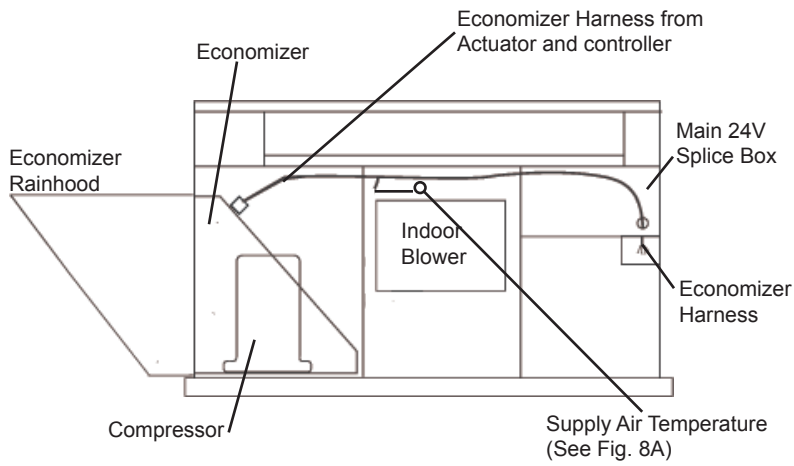

Fig. 8 - Routing Harness Extension and Mounting SAT Sensor
- In the event that your HVAC unit does not have a factory installed harness for the economizer, the extension harness shipped with the economizer must be installed in the unit. Route the extension harness through the HVAC unit as shown in Fig. 8 & 10. Connect extension harness per wiring diagrams in this booklet. The plug end of the harness extension will connect to the economizer plug in the return chamber and the other end will be routed to and connect in the control box.
SUPPLY AIR TEMPERATURE (SAT) SENSOR—The supply air temperature sensor is a 3 KΩ thermistor located at the inlet of the indoor fan. See Fig. 8 and 9. This sensor is field installed. The operating range of temperature measurement is 0°(-18° C) to 158° F (70° C). See